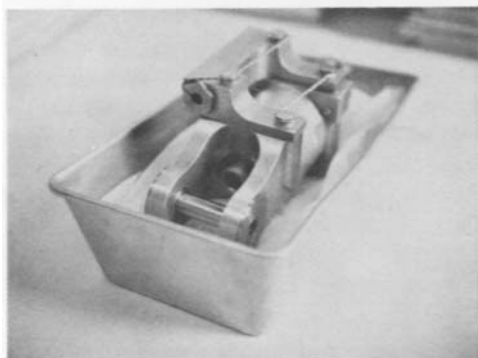

Figure 1
- b. Remove the safety wire from the four reservoir retaining bolts and plug. Place the damper assembly on its side, with the reservoir and retaining bolts facing up, in a clean shop pan or on a clean shop cloth (see Figure 1).